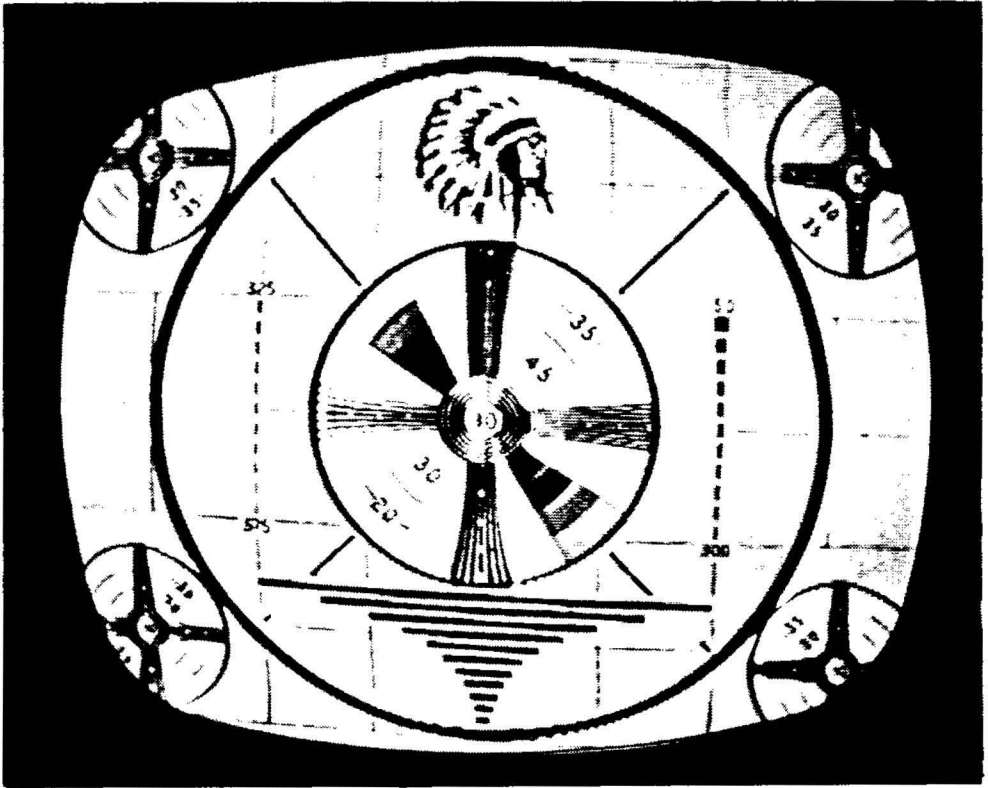

Fig. 1-2. Pattern showing white smear trailing off the black.
*Tunable smears*—Sharp edges, particularly on the blacks, are blurred. Appears as a white smear trailing off the black edge, and can be varied by adjusting the fine-tuning control (Fig. 1-2).